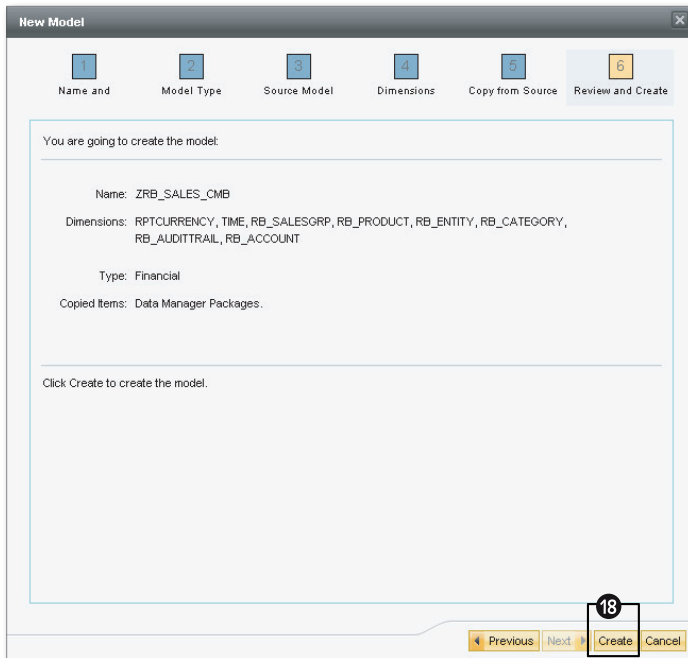
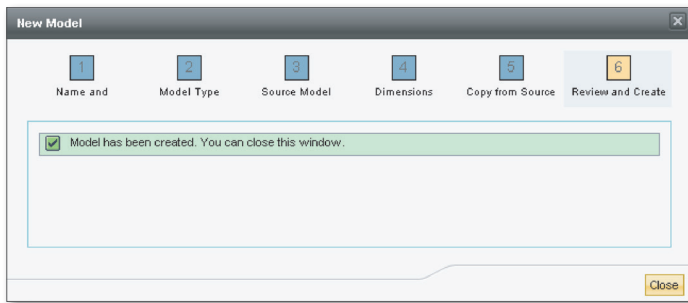

Figure 3.44 Creating a Model—Part H
Figure 3.45 Creating a Model—Part I
- The last screen provides the opportunity to review the technical name of the model, the dimensions included in the model, and the model type. The items that will be copied from a source model are displayed when using an existing model to create the new model. Click on CREATE to create the new model (Figure 3.44, 18). A status message indicates that the new model has been created (Figure 3.45). The PROFITABILITY PLANNING model is created and displayed under the MODELS available for the environment.